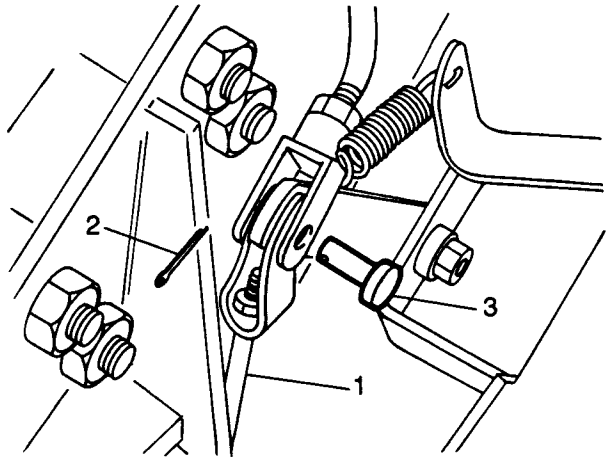

Fig H1.4
- (7) Refer to Fig H1.4. Disconnect the handbrake expander rod (1) by removing the split pin (2) and pulling out the clevis pin (3).